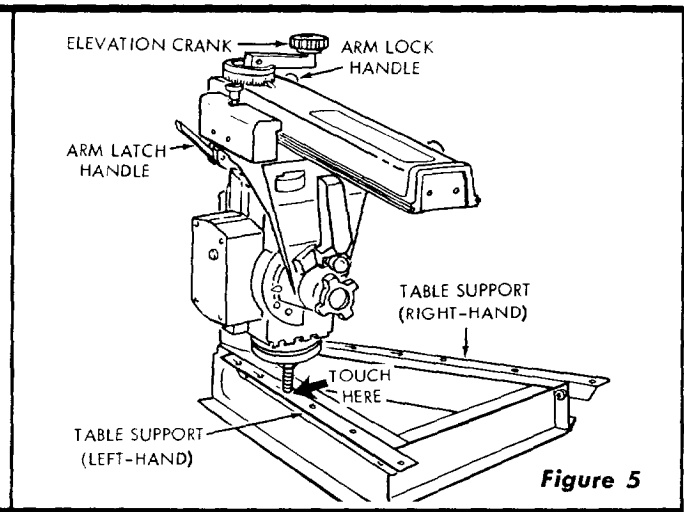

Figure 5
- c. Using the elevation crank (figure 5), raise the motor high enough to swivel  $90^\circ$ , as described in the next step.
- e. Loosen the arm lock handle (at upper right-hand side of column) and release the arm latch handle (figure 5).